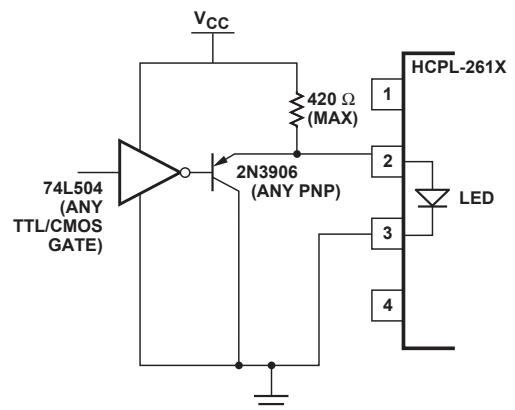

Figure 22. TTL interface circuit for the HCPL-261A/-261N families.
1. Use of drive circuits where current is shunted from the LED in the LED "off" state (as shown in Figures 22 and 23). This is beneficial for good CMR_H .
Using any one of the drive circuits in Figures 22-24 with $I_F = 10$ mA will result in a typical CMR of 8 kV/ μ s for the HCPL-261N family, as long as the PC board layout practices are followed. Figure 22 shows a circuit which can be used with any totem-pole-output TTL/LSTTL/HCMOS logic gate. The buffer PNP transistor allows the circuit to be used with logic devices which have low current-sinking capability. It also helps maintain the driving-gate power-supply current at a constant level to minimize ground shifting for other devices connected to the input-supply ground.